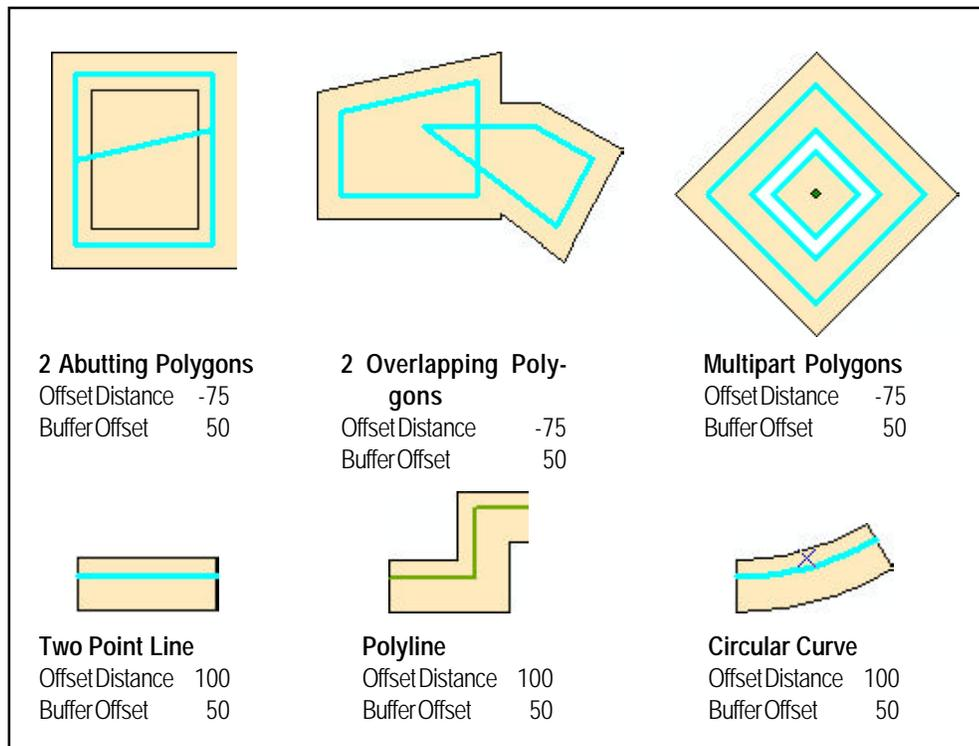

Figure 9
- Shown in Figure 9 are sample buffer polygons created using various offset distance and buffer offset values for different types of features.